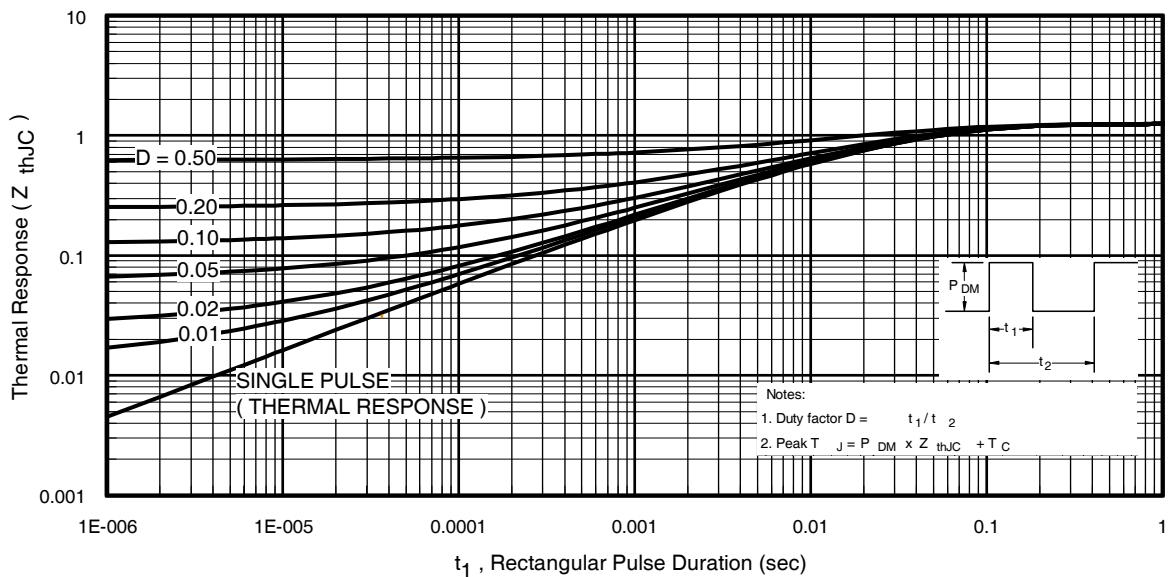

Fig 11. Maximum Effective Transient Thermal Impedance, Junction-to-Case
- ① Repetitive rating; pulse width limited by max. junction temperature. (See fig. 11).
- ② Starting $T_J = 25^\circ\text{C}$, $L = 0.24\text{mH}$
- $Z_{thJC}(D, t_{av})$ = Transient thermal resistance, see figure 11)